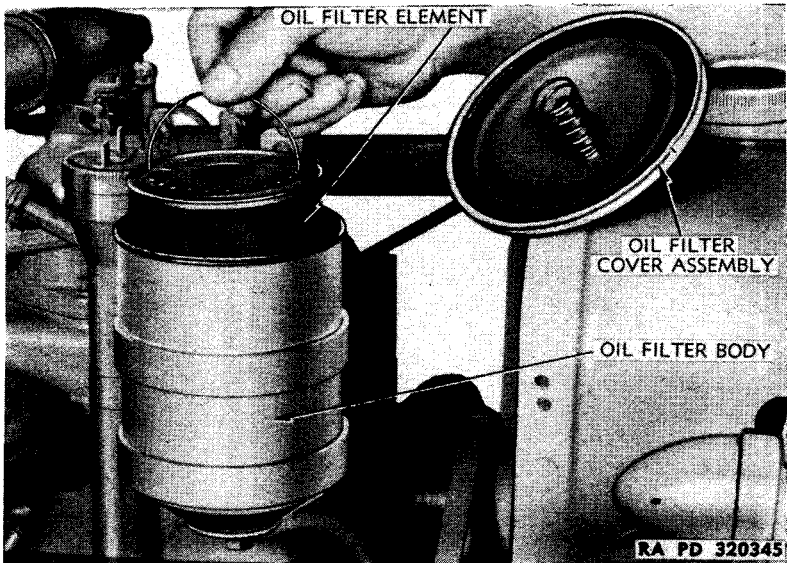

Figure 44—Removing Oil Filter Element
b. Replacement of Oil Filter Element. Remove the engine hood side plates and the engine hood. Loosen top nut on filter and remove cover assembly. Lift out old element (fig. 44). Clean out filter body. Install new element. Replace cover assembly with new gaskets. Replace engine hood and engine hood side plates.